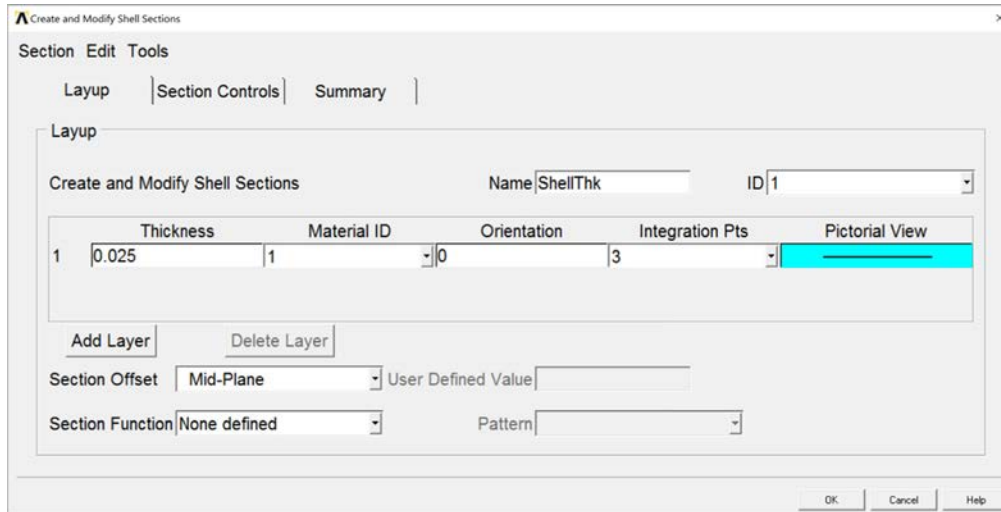

Figure 9-3-3 Create and Modify Shell Sections Dialog Box.
- Enter "ShellThk" in the Name box (Figure 9-3-3)